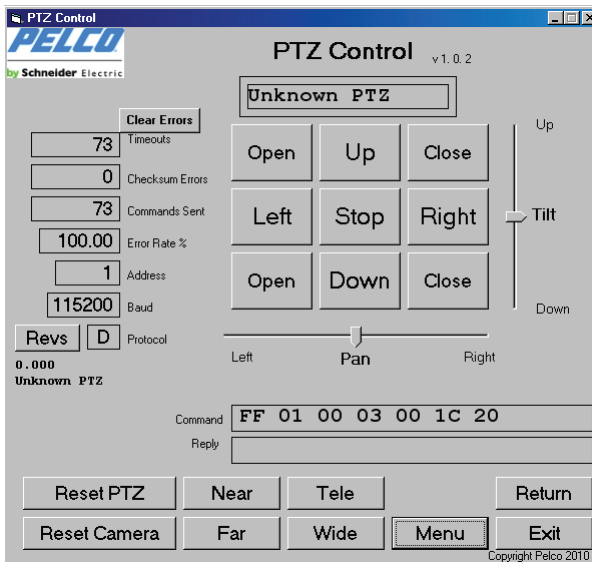

Figure 4. PTZ Control Window
5. Click the PTZ button to open the PTZ Control window (refer to Figure 4 on page 10).
The PTZ Control window contains the following buttons (refer to Figure 4):